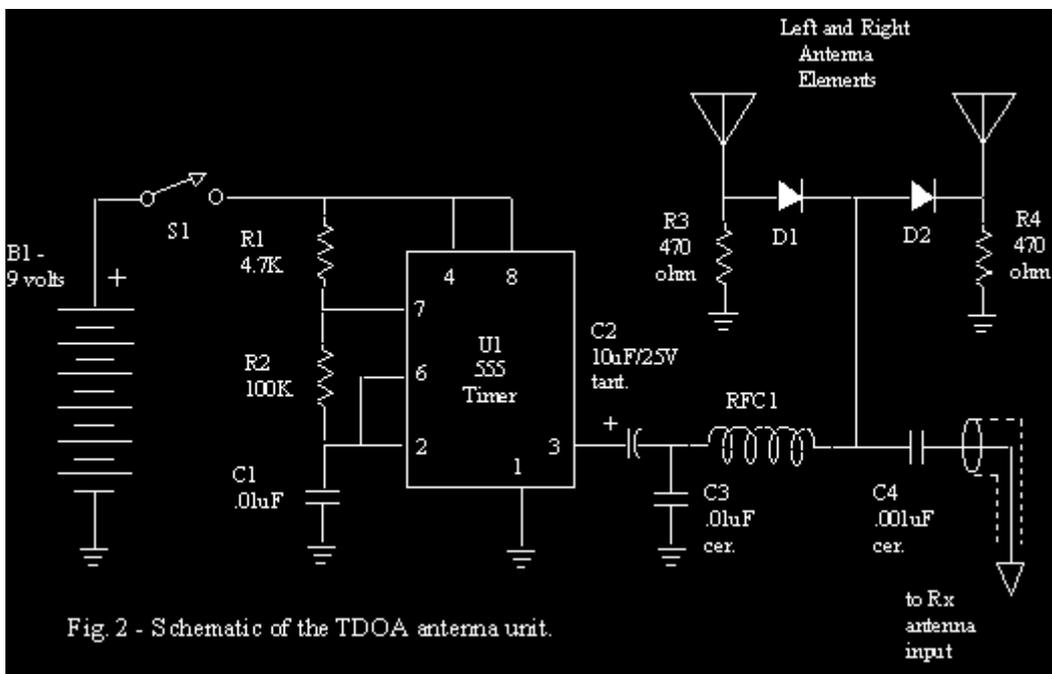

Fig. 2 - Schematic of the TDOA antenna unit.
You can build a simple TDOA unit in an evening or two for about \$10 or less (depending on the size of your junk-box). The circuit, shown in Fig. 2, is based on one in an article by Paul Bohrer (ref 1). U1 is a 555 timer powered by a 9V battery, oscillating at about 1kHz. R1, R2 and C1 determine the frequency of oscillation. The output of U1 is a square-wave from +9V to ground. C2 allows the square-wave to be level-shifted to between +4.5V and -4.5V. The positive half of the square-wave's cycle turns on (forward-biases) D1 and turns off (reverse-biases) D2; the negative half of the cycle does the opposite. R3 and R4 limit the forward bias current for each diode to about 9mA. When the diode is turned on, the RF signal received by that diode's dipole is conducted through the diode and coupled through C4 to the coaxial cable to the receiver. When the diode is turned off, the RF signal (from that diode's dipole) is blocked. RFC1 presents a high impedance to the RF signal so that it is not shunted by the oscillator circuit, but passes the relatively low-frequency square-wave to the diodes. RFC1 together with C3 also comprise a low-pass filter to prevent the high-frequency components of the square-wave from getting into the antenna circuit and the receiver. If you forget to install C3 (I did), you'll hear a continuous "hash" of switching noise.